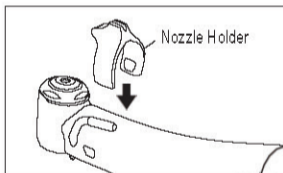

Fig. 6
- Attach the Nozzle Holder. (Fig.6)